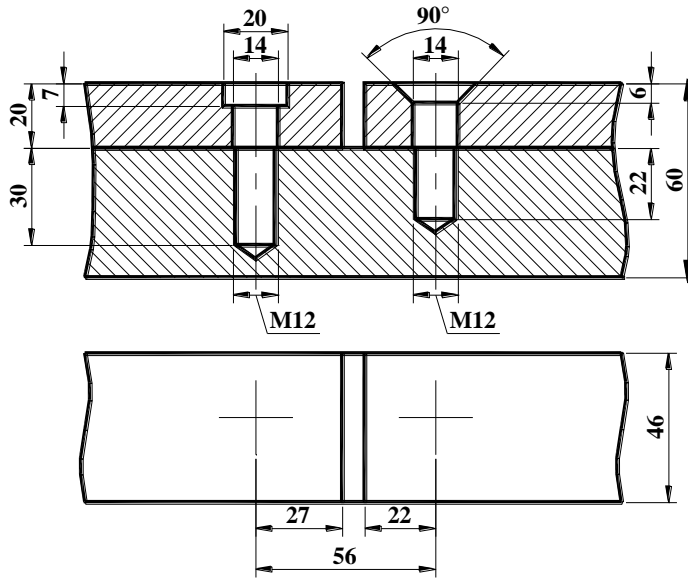

FIGURE T6.2
2. DRAW A SCREW FASTENING SHOWN IN FIGURE T6.2 WITH SUITABLE VALUE OF DIMENSIONS.